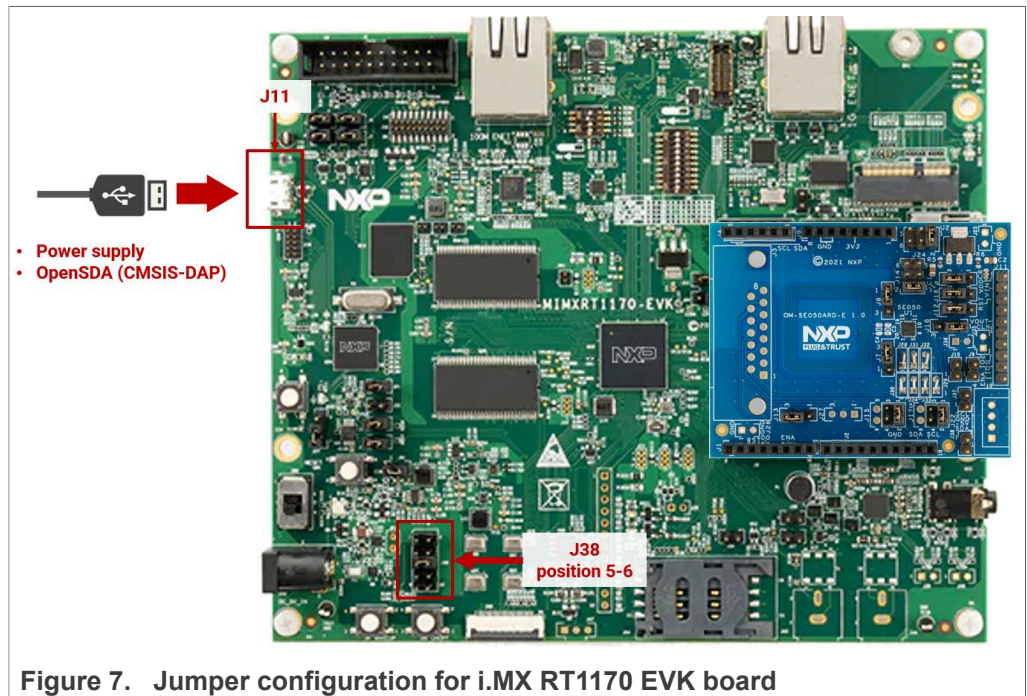

Figure 7. Jumper configuration for i.MX RT1170 EVK board
i.MX RT1170: configure the **J38** jumper of the i.MX RT1170 EVK board in position 5-6 as shown in Figure 7. With this setting, the board power supply and the DAP-Link debugger will function using the **J11** micro-USB connector.